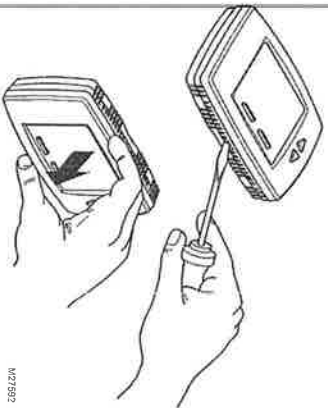

Fig. 21. Removing the thermostat.
- If it is necessary to remove the thermostat from the sub-base, refer to Fig. 21 and perform the following steps: